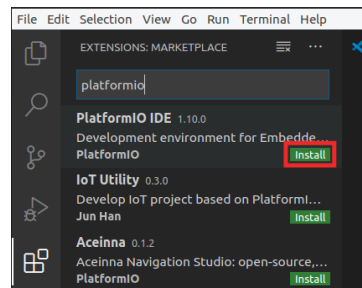

Figure 93. PlatformIO IDE Extension
4. Type *PlatformIO* in the search box and install the PlatformIO *IDE* by clicking on the install button next to it (see Figure 93).